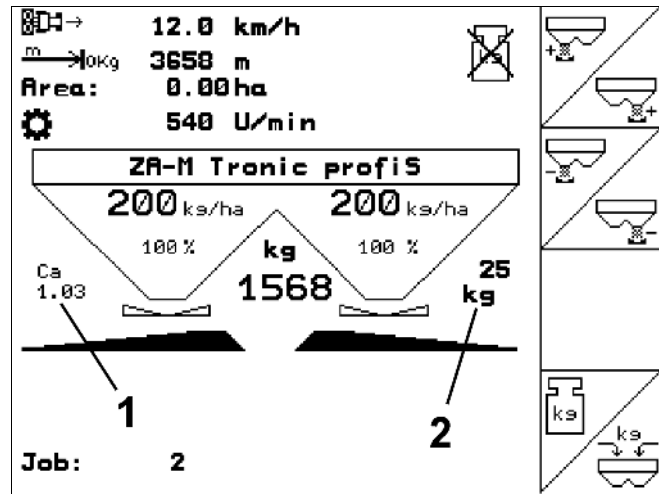

Fig. 43
- Actual calibration factor (Fig. 43/1).
- Spread amount since the last online calibration (Fig. 43/2).